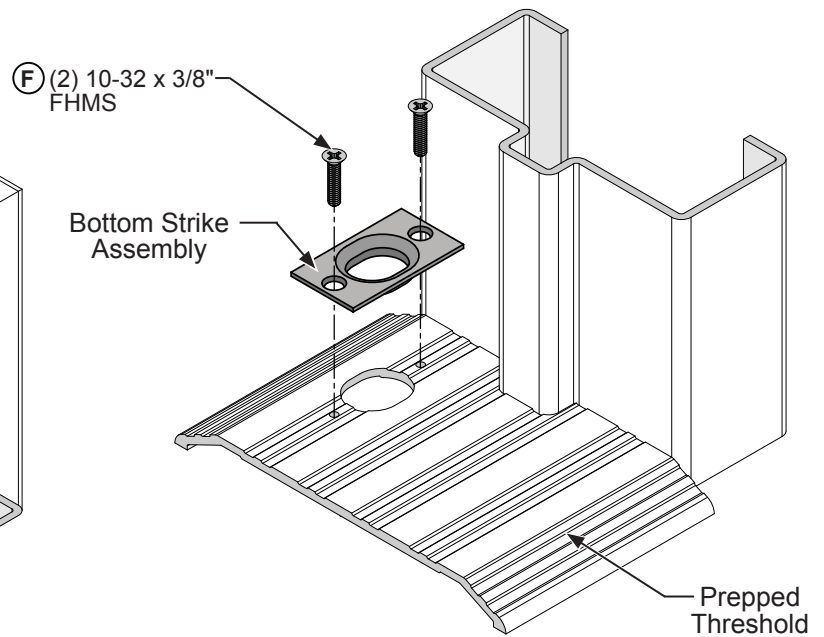

FIG. 19
1. Cut out a 1" long x 13/16 wide hole and Drill and tap for (F) (2) 10-32 x 3/8" FHMS on the mark made in step 2 of the frame preparation on page 16. Attach the bottom strike centering on the mark (Fig. 19).